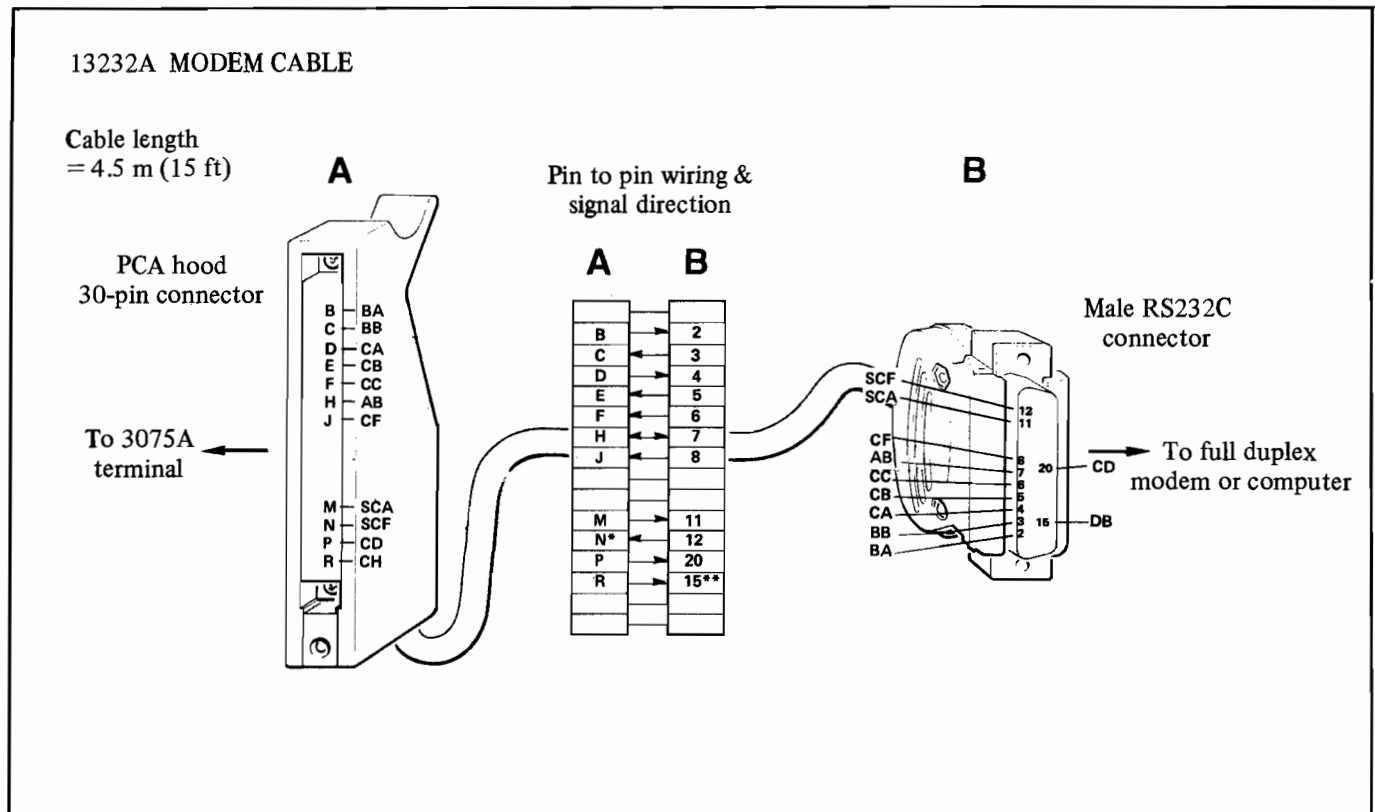

Figure 15-23 Point-To-Point Cable Details
- 5) On the 13232A cable, cut the cable adjacent to the PCA hood (see figure 15-23) to remove the hood. Strip back the cable outer jacket, as required. Remove approximately 6 mm (0.25 ins.) of insulation from each of the signal wires to be used.
Note: A probe (or resistance meter) may be used to ensure that the wires connected to the screw connector correspond to the same signals used on the cable male connector. Figure 15-23 depicts the 13232A cable internal wiring. Appendix D lists the RS232C signals.
The 13232A cable depicted in figure 15-23 may be fabricated by the user. The male RS232C connector, the PCA (Printed Circuit Assembly) hood connector and the point-to-point cable are available from Hewlett-Packard. Part numbers for these items are listed in Table 15-6. Figures 15-18 and 15-19 depict the assembly of the RS232C connector and PCA hood connector respectively.